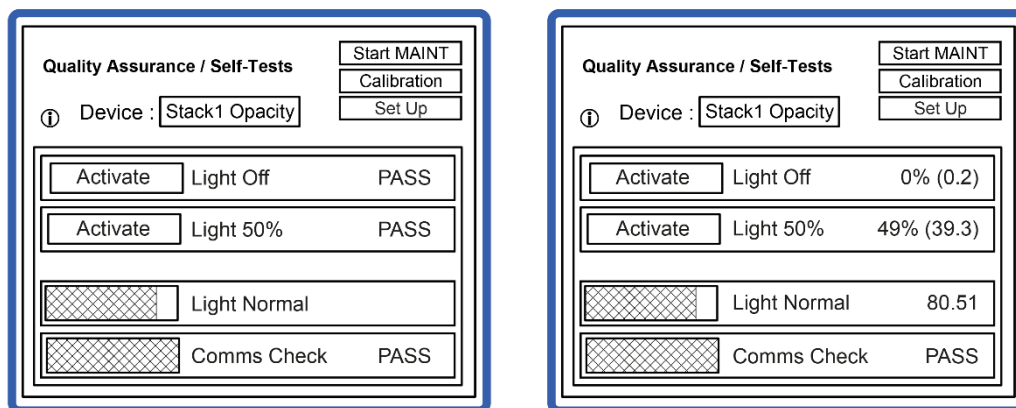

Figure 22: Opacity sensor test results (alternating).
1. Open the **QA/Self-Tests** menu screen, then select **Device | Stackn Opacity** to display the self-test results for a sensor (see **Figure 22** below):